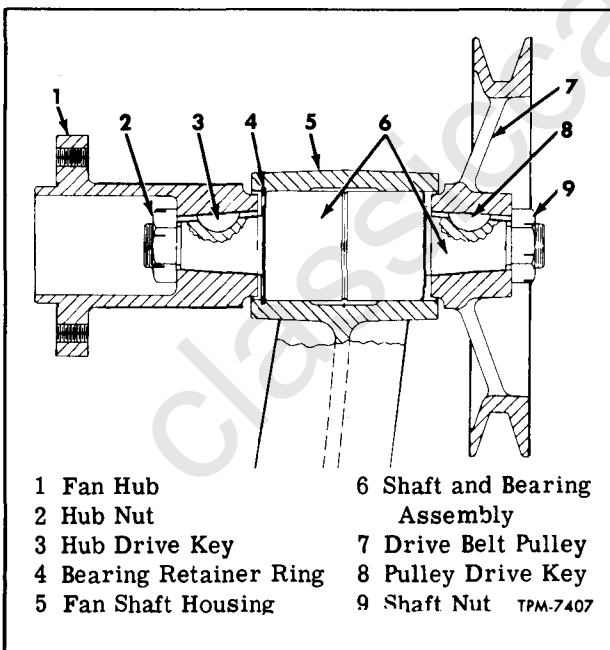

Figure 7—Fan Shaft and Housing Assembly (RM 80)
2. Disconnect yoke end of belt tension adjusting rod from fan shaft housing (5, fig. 7).
NOTE: Key numbers in text refer to figure 7.